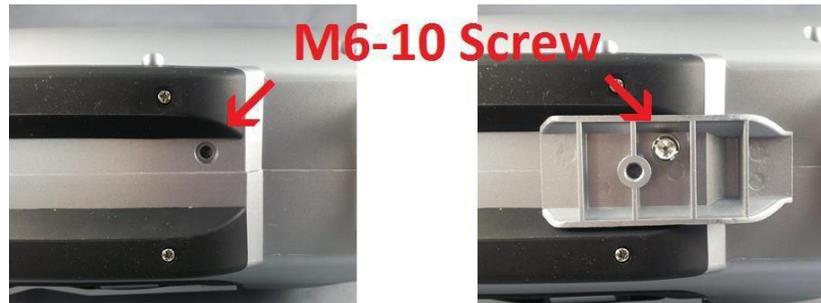

Figure 3.5. Attaching the tripod adapter to the bottom of the detector unit
1. Position the tripod adapter on the bottom of the detector unit as shown in Figure 3.5.